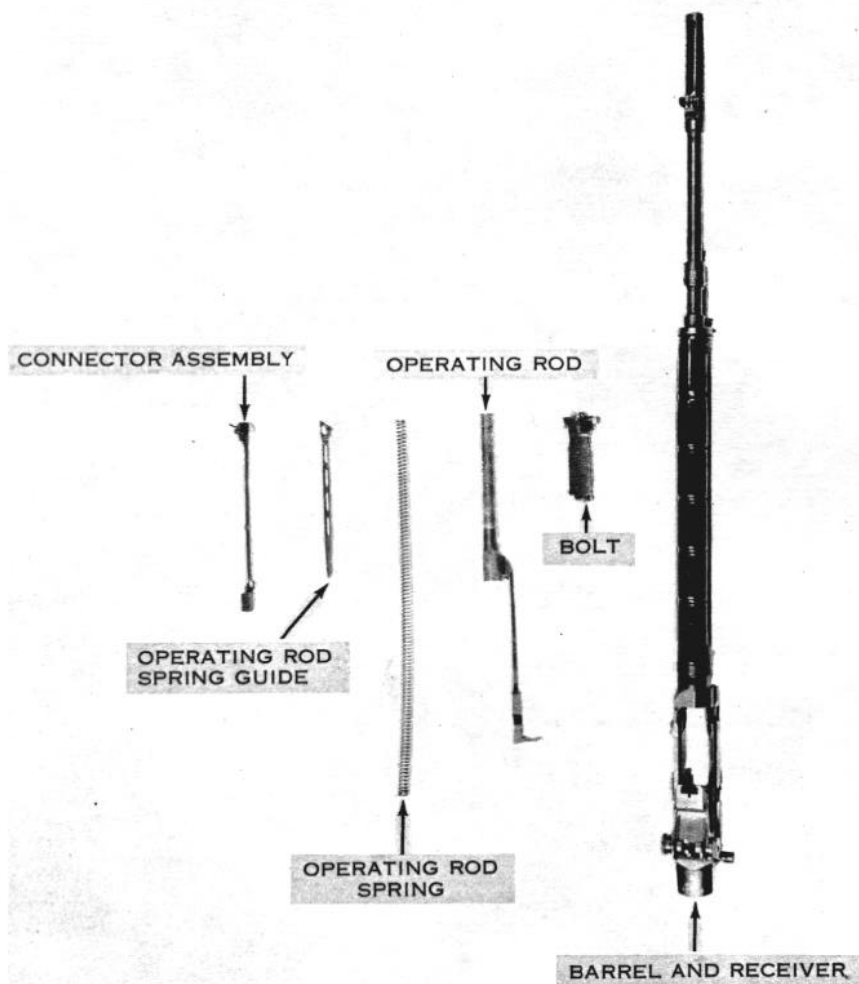

Figure 15. Parts of the barrel and receiver group in the order of disassembly.
e. Rifle Field Stripped. The parts of the barrel and receiver group in their order of disassembly are shown in figure 15.